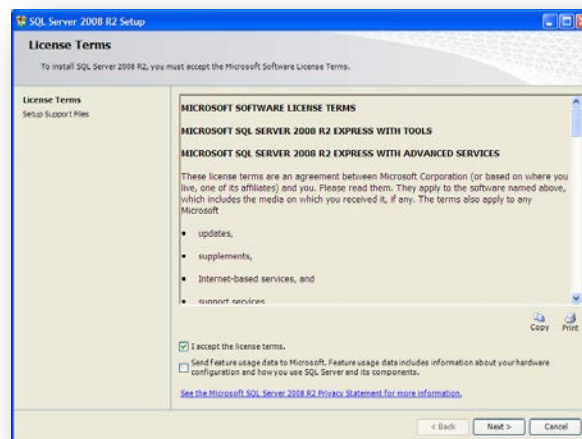

Figure 44 – License Terms
9. Click “Install”. See Figure 44.
10. Select **Install the native mode default configuration** from the Reporting Services Configuration screen and click **Next**. See Figure 44.